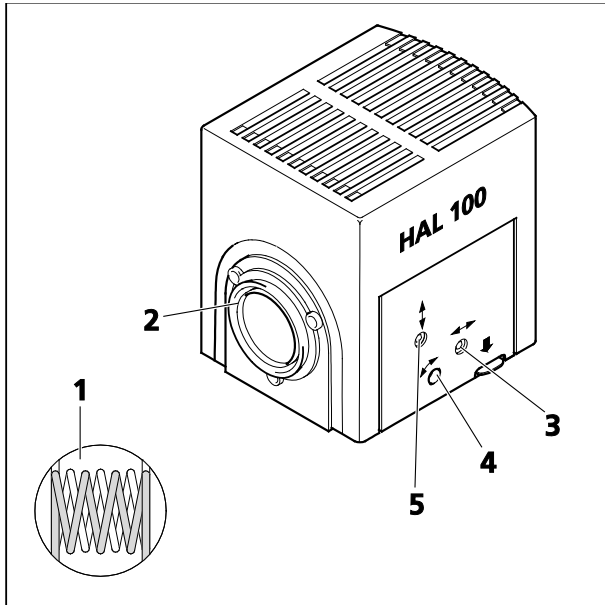

Figure 3-19 Adjusting the HAL 100 halogen lamp
- Set the adjusting screw (Figure 3-19/3) using a ball head screwdriver (width A/F 3) to reach the best focus possible for both images of the lamp filaments on the projection surface.
- Then, set the adjusting screws (Figure 3-19/4 and 5) to a value at which the lamp filaments of one image exactly fill out the gaps in the reflector image (Figure 3-19/1).
(2) Fine adjustment
- Remove the eyepiece, and center the lamp filament and the lamp filament's mirror image in the pupil image using the adjusting screws (Figure 3-19/4 and 5).
- Set the adjusting screws (Figure 3-19/3) to optimize the uniform illumination of the pupil image.